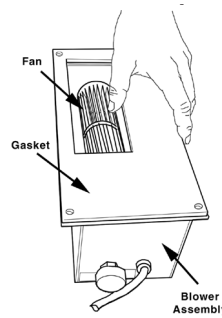

Fig. 4 – Optional Blower Assembly
1. Attach blower assembly (fig.4) to back of rear deflector. (fig.5)